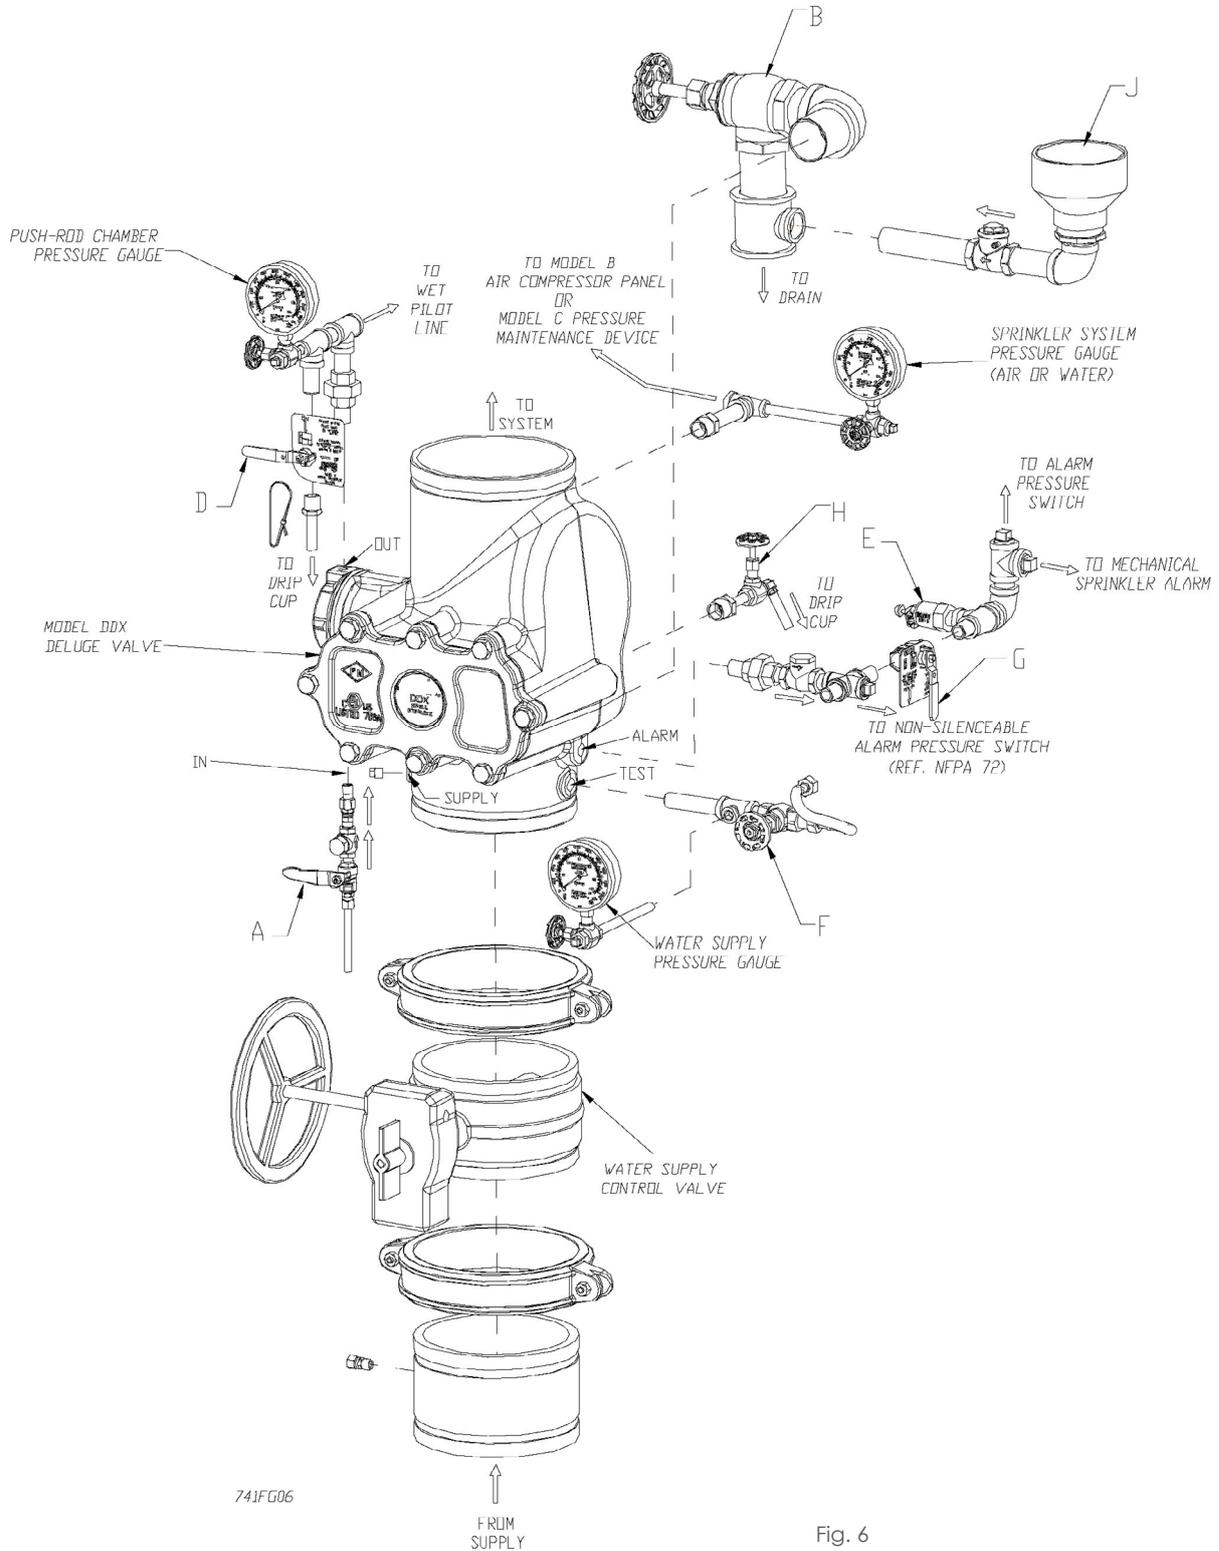

Fig. 6
6. Releasing device: check the wet pilot line and the Model B Manual Emergency Station, valve D (Fig. 6) for leakage. Also verify that the tubing drain line from the Model B Manual Emergency Station is not pinched or crushed which could prevent proper releasing of the Deluge Valve.
7. Testing alarms: make sure that valve G (Fig. 6) is open. Open valve F (Fig. 6) permitting water from the supply to flow to the electric sprinkler alarm switch and to the mechanical sprinkler alarm (water motor). After testing, close this valve securely. Push in on the plunger of ball drip valve E (Fig. 6) until all of the water has drained from the alarm line.
8. Operational test: Open the Model B Manual Emergency Station, valve D (Fig. 6). Note: An operational test will cause the Deluge Valve to open and flow water into the sprinkler system.
9. Secure Model B Manual Emergency Station, valve D (Fig. 6), in the OFF position with a nylon tie (#50, Fig. 2) after the Deluge Valve is reset.
Refer to Fig. 6
2. Leakage out of the ball drip valve E (Fig. 6).
- b. Leakage, air or water from the ball drip valve, E (Fig. 6): If system air is leaking out the ball drip valve, the problem is either damage to the airside of the Model DDX Deluge Valve's seal assembly (#8, Fig. 5), seat (#29, Fig. 5), mounting ring O-ring (#2, Fig. 5) or the upper seat O-ring (#23, Fig. 5). If supply water is leaking out the ball drip valve, the problem could be caused by damage to the Model DDX Deluge Valve's seal assembly (#8, Fig. 5), seat (#29, Fig. 5), mounting ring O-ring (#2, Fig. 5) or lower seat O-ring (#24, Fig. 5). The following section provides instructions to correct both conditions:
- A. Shut down the valve controlling the water supply to the Deluge Valve and open the 2" main drain valve B (Fig. 6). Open the water column drain valve H (Fig. 6). Close the push rod chamber supply valve A (Fig. 6) and open the Model B Manual Emergency Station D (Fig. 6).
- Shut down the valve controlling water supply to the Deluge Valve. Relieve the inlet pressure by opening the 2" drain valve B (Fig. 6). Close the valve A (Fig. 6) that supplies water to the push rod chamber, and open the Model B Manual Emergency Station, valve D (Fig. 6).